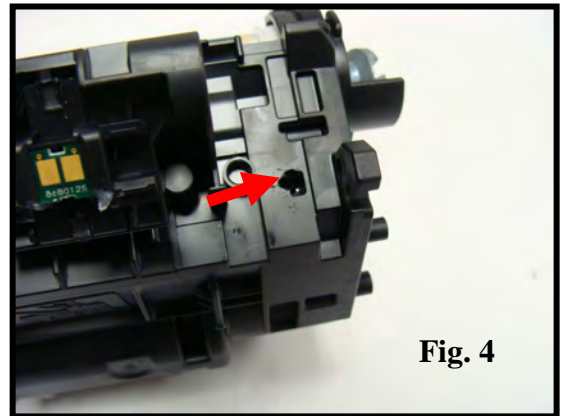

Fig. 4
4. Once the hole is drilled, you will have access to the cartridge pin (Fig. 4).